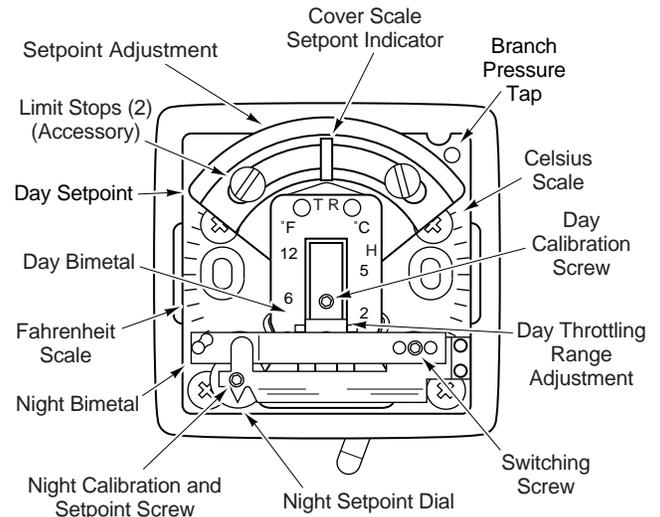

Figure-9 Thermostat Calibration Features and Limit Stop Accessory.
1. Remove the thermostat cover. Install a 22-138 branch tap gauge adaptor into the branch pressure tap hole (Figure-9).
1. Position the day setpoint cam (Figure-9) to match the ambient temperature.
The internal stop kit, model 20-712, consists of two screws and two nuts (Figure-9). Install this kit as follows: